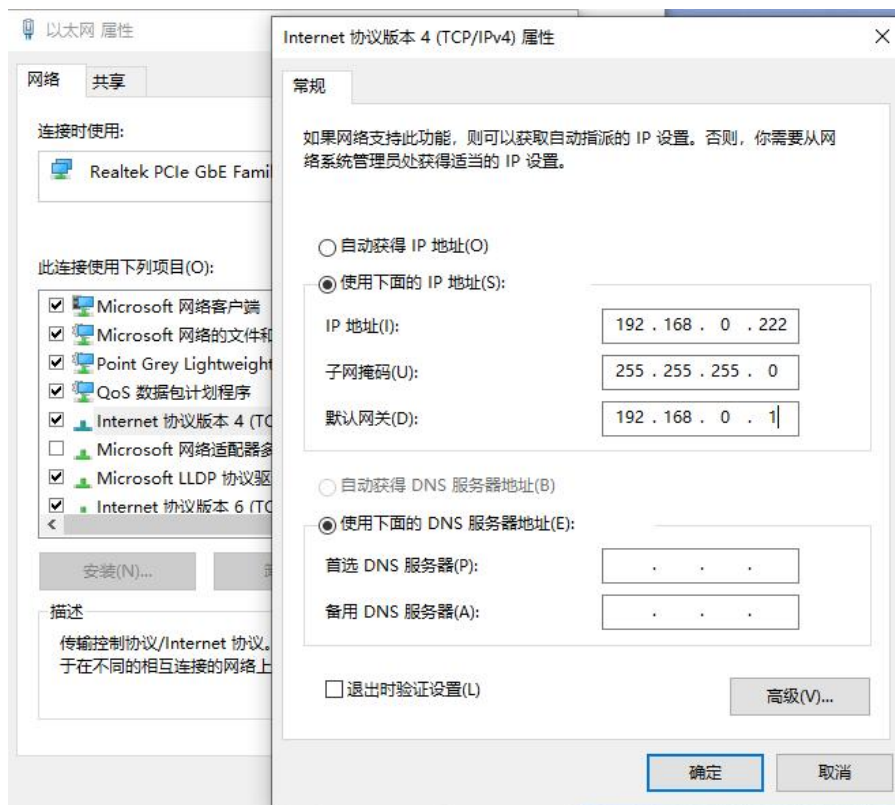

Figure 9 Steps of Ethernet Connection
- f) Click the "OK" button to confirm the settings and exit. The IP address is different from the default gateway, see Figure 9.